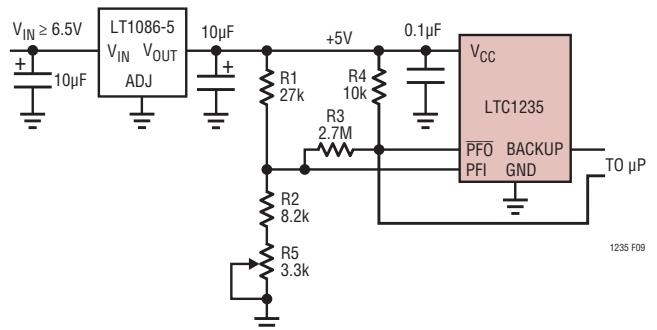

Figure 9. Monitoring *Regulated* DC Supply with the LTC1235 Power Fail Comparator
**Example 2:** The circuit in Figure 9 can be used to measure the regulated 5V supply to provide early warning of power failure. Because of variations in the PFI threshold, this circuit requires adjustment to ensure that the PFI comparator trips before the reset threshold is reached. Adjust R5 such that the  $\overline{\text{PFO}}$  output goes low when the  $V_{\text{CC}}$  supply reaches the desired level (e.g., 4.85V).